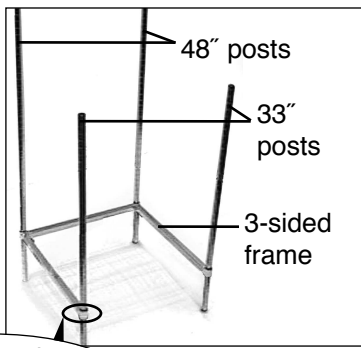

Figure 1b
- Insert posts through collars of 3-sided frame as shown in *Figure 1b*. Slide 3-sided frame down onto split sleeves. 33" posts should indicate front of unit.